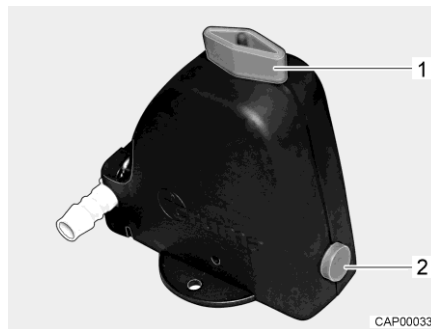
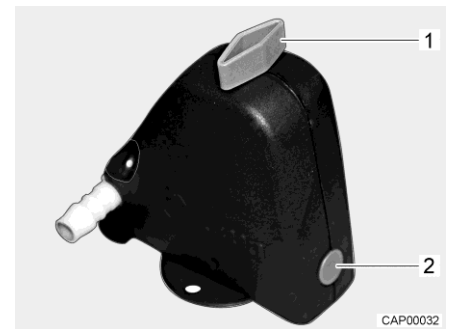

Fig. 96 Safety/drainage valve open
Fig. 97 Safety/drainage valve closed
- Close the safety/drainage valve. Turn the knob (Fig. 96,1) perpendicular to the safety/drainage valve and push the push button (Fig. 96,2) in. The closed safety/drainage valve is shown in Fig. 97. If the temperature is below 6 °C, the safety/drainage valve cannot be closed.